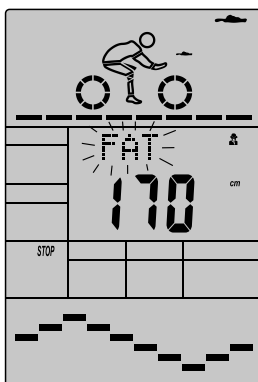

Fig 34
- Press (or rotate) button UP/DOWN to select FAT measurement program (Fig 34)